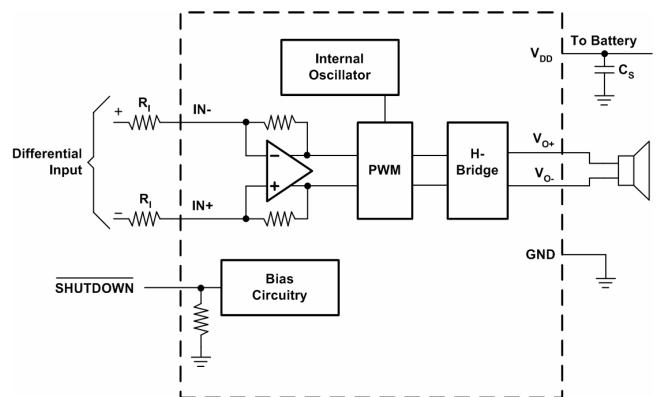
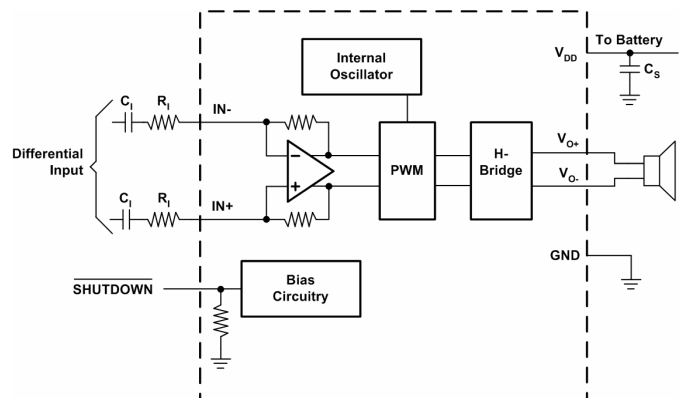
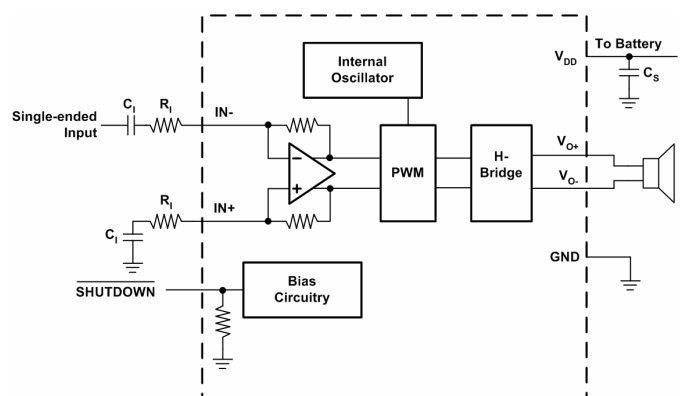
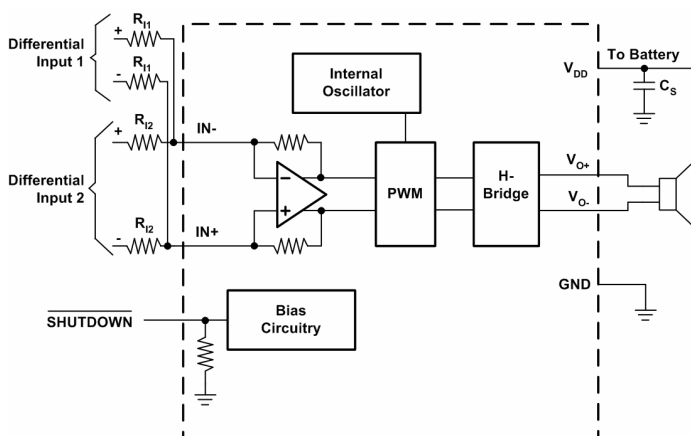

Figure 30. Typical Application Schematic with Differential Input for a Wireless Phone
Figure 31. Typical Application Schematic with Differential Input and Input Capacitors
Figure 32. Typical Application Schematic with Single-Ended Input
Figure 33. Application Schematic with EUA2011 Summing Two Differential Inputs
Figure 30 shows the EUA2011 typical schematic with differential inputs and Figure 31 shows the EUA2011 with differential inputs and input capacitors, and Figure 32 shows the EUA2011 with single-ended inputs. Differential inputs should be used whenever possible because the single-ended inputs are much more susceptible to noise.
The EUA2011 does not require input coupling capacitors if the design uses a differential source that is biased from 0.5 V to $V_{DD} - 0.8$ V (shown in Figure 31). If the input signal is not biased within the recommended common-mode input range, if needing to use the input as a high pass filter (shown in Figure 32), or if using a single-ended source (shown in Figure 33), input coupling capacitors are required.
Two extra resistors are needed for summing differential signals (a total of 5 components). The gain for each input source can be set independently (see equations (4) and (5), and Figure 33).